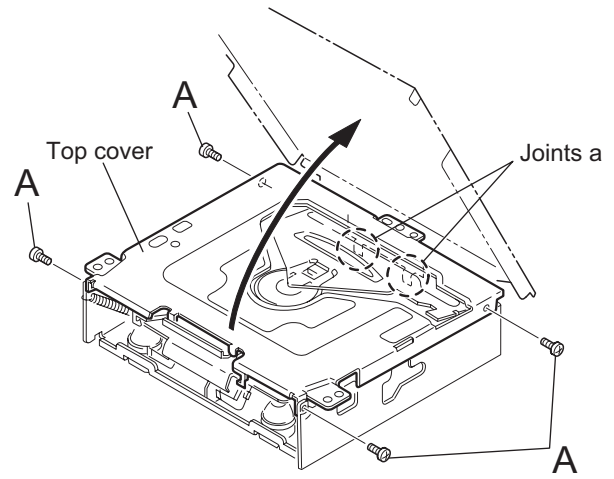

Fig.1
2.2.1 Removing the top cover (See Figs.1 and 2)